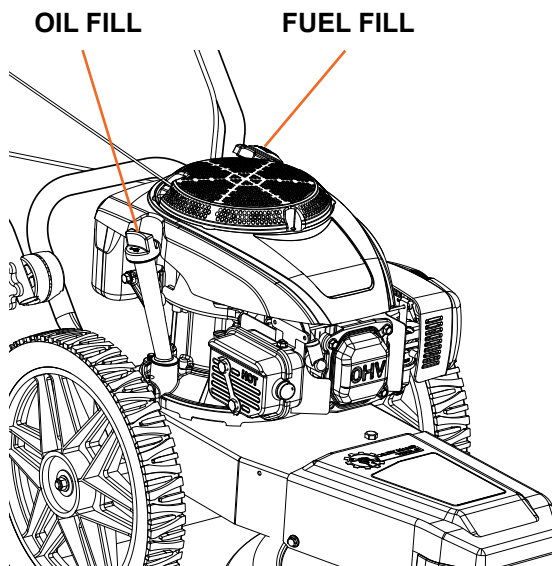

Figure 5
1. Place the machine on a level surface and initially add 1/2 of the SAE 30 high detergent oil into the oil fill (Figure 5) and wait one (1) minute for the oil to settle.